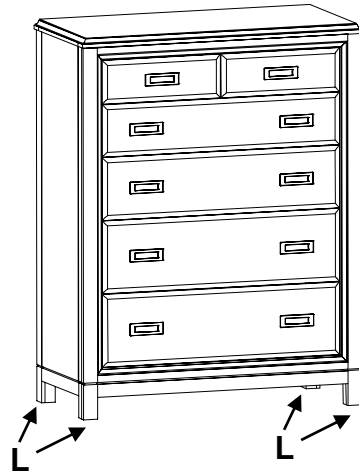

Fig. 1
1. Place the chest at its final destination. Rotate the Small Adjustable Glides (L) on the bottoms of the legs until the unit is level. See Figure 1.